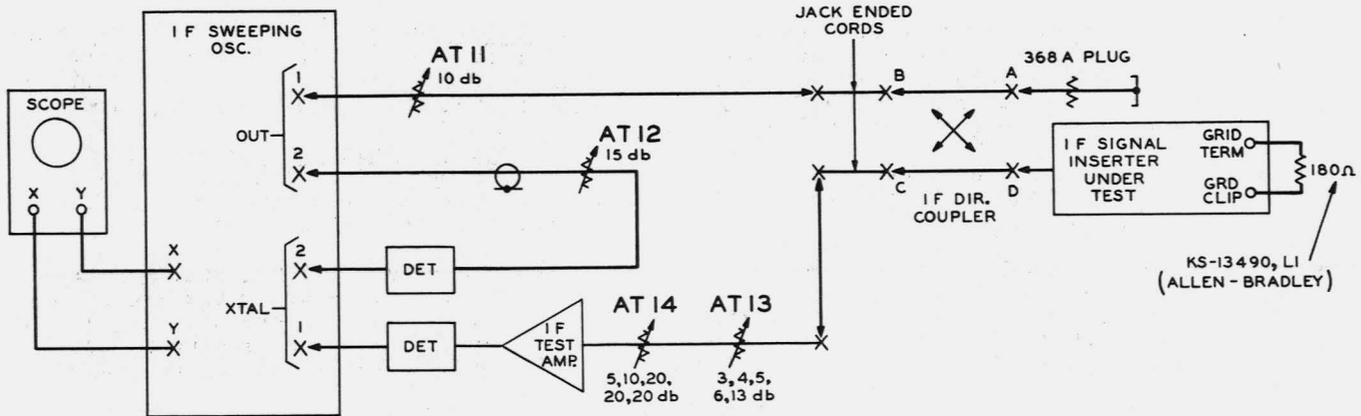

Fig. 3 - Setup for Testing IF Signal Inserter
- (1) Set up the test equipment as in Fig. 3, except do not connect the signal inserter to the directional coupler.
- (2) Determine the reference setting of AT I3 and AT I4 as follows:
- (3) Connect the INPUT plug of the signal inserter to the D connection of the directional coupler. Connect a terminating resistor to the inserter as shown in Fig. 3. Keep resistor lead lengths at the absolute minimum.
- (4) Reduce the attenuation of AT I3 and AT I4 until the test trace is as close as possible to the reference trace, but still below it from 60 to 80 MC. Determine the return loss of the signal inserter by subtracting the total attenuation of AT I3 and AT I4 from the reference total obtained in Par. (2).